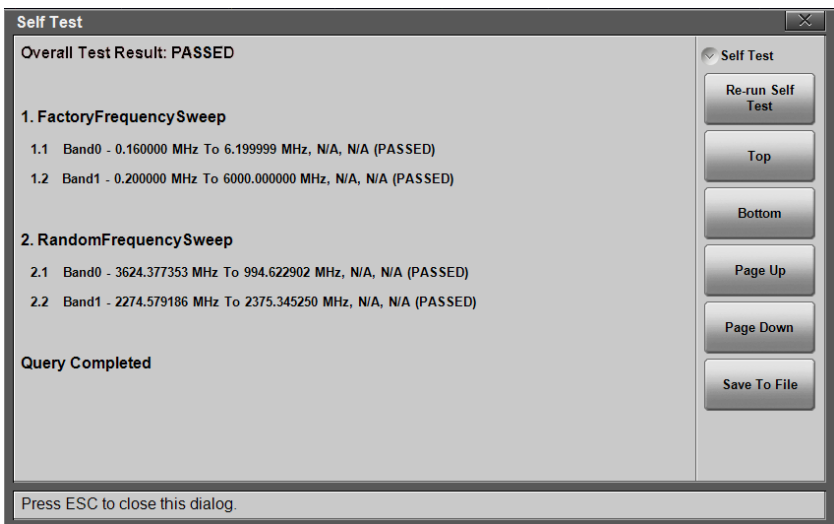

Figure 7-4. Self Test Window
1. Press the **System** (8) key on the interface screen keypad.
2. Press the **Diagnostics** submenu, then **Self Test**. The test will start and results are displayed in the Self Test window (see Figure 7-4).
<p>Diagnostics</p>	<p>Self Test: Press this submenu key to initiate diagnostic tests on the instrument. Test results are listed in the Self Test window, illustrated in Figure 7-4 on page 7-5. Press Esc to close the window.</p>